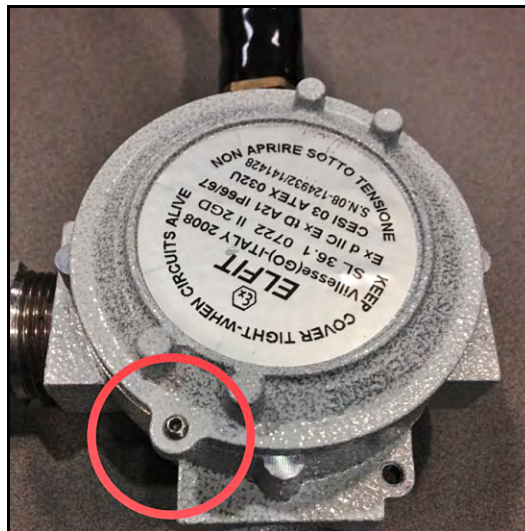

Figure 15: Set Screw of Junction Box
- Place the cover of the junction box over top of the **XAMP** and tighten the cover until the unit is closed and secure. Engage the set screw to discourage tampering or removal (see *Figure 15* below).